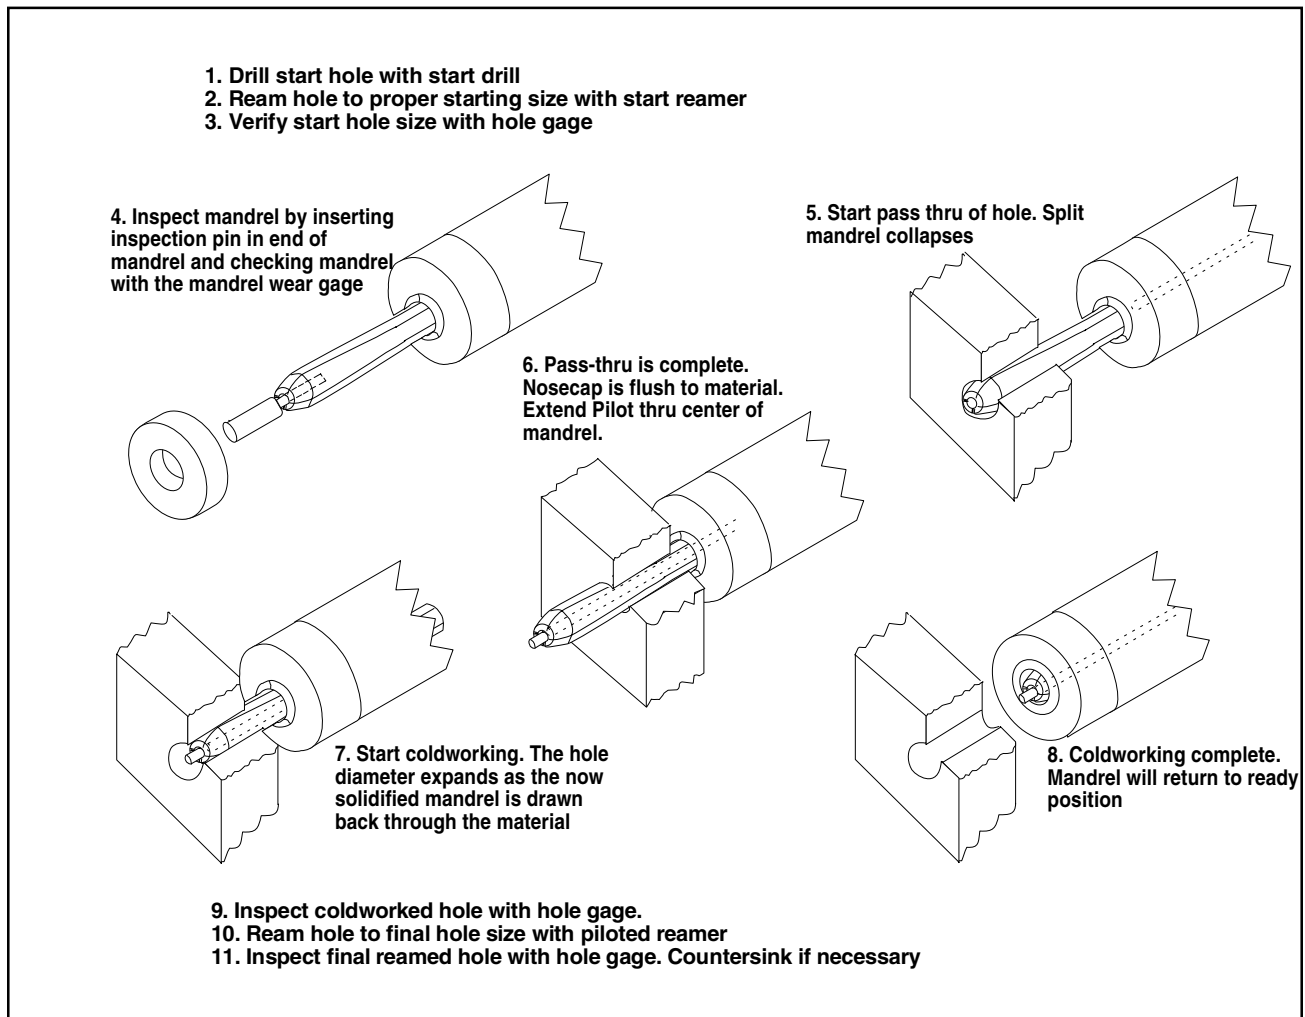

Figure 2-01
- 2.1.2 Refer to Figure 2-01 for an overview of the coldworking process.